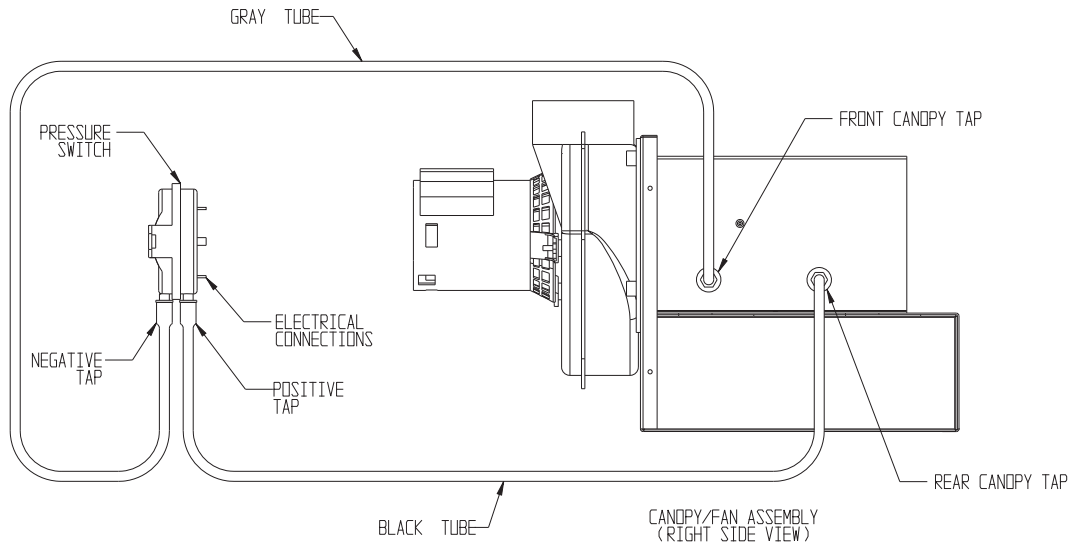
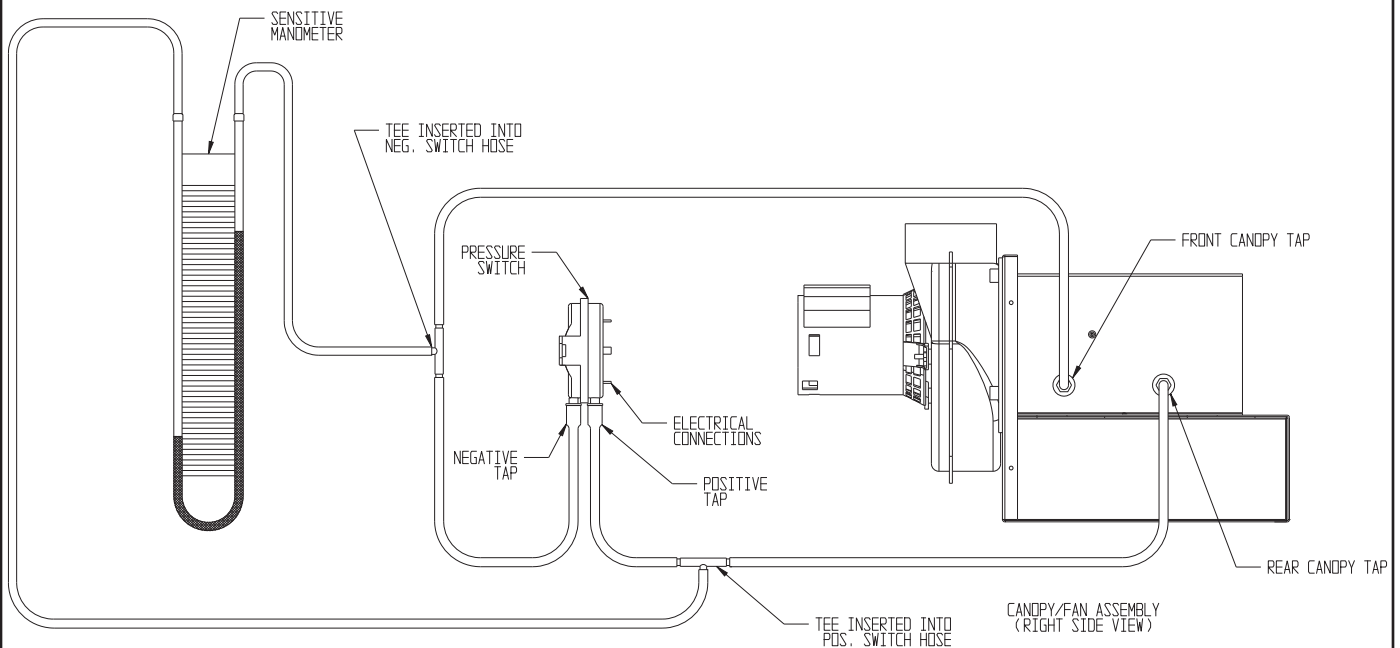

Figure 12.3a: Pressure Switch Connections
Figure 12.3b: Measuring Pressure Across Pressure Switch
1. Pressure Switch – This boiler is equipped with a differential pressure switch which makes when there is adequate flue gas flow through the boiler. This switch measures the pressure drop across an orifice plate inside the flue collector; the higher the flue gas flow through this plate, the higher the pressure drop. The N.O. contacts on the pressure switch make, allowing the boiler to fire, when the pressure drop across the flue collector orifice plate switch exceeds the “make setting” shown in Table 12.1. Once the switch is made, the boiler will fire as long as the pressure at the switch is above the “break setting” shown in Table 12.2. The pressure at both pressure switch tapings is actually below atmospheric (“negative”) with the pressure at the front flue collector tap being the more negative of the two pressures. Figure 12.3a shows the pressure switch connections. Figure 12.3b shows the correct method of reading the pressure across the pressure switch tapings. It is normal for the pressure reading across the switch to drop as the boiler heats up.